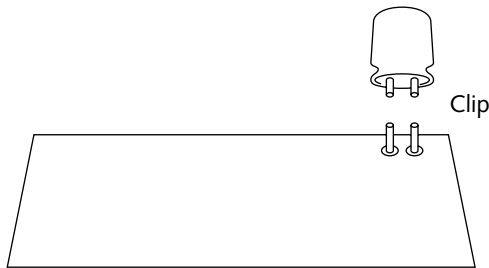

FIGURE 11-1: Clip the component from the circuit.
1. Snip the capacitor (or whatever) from the board, about $\frac{1}{8}$ " from the solder junction itself, leaving on the board just enough remaining of the component lead still able to be soldered to (see Figure 11-1).